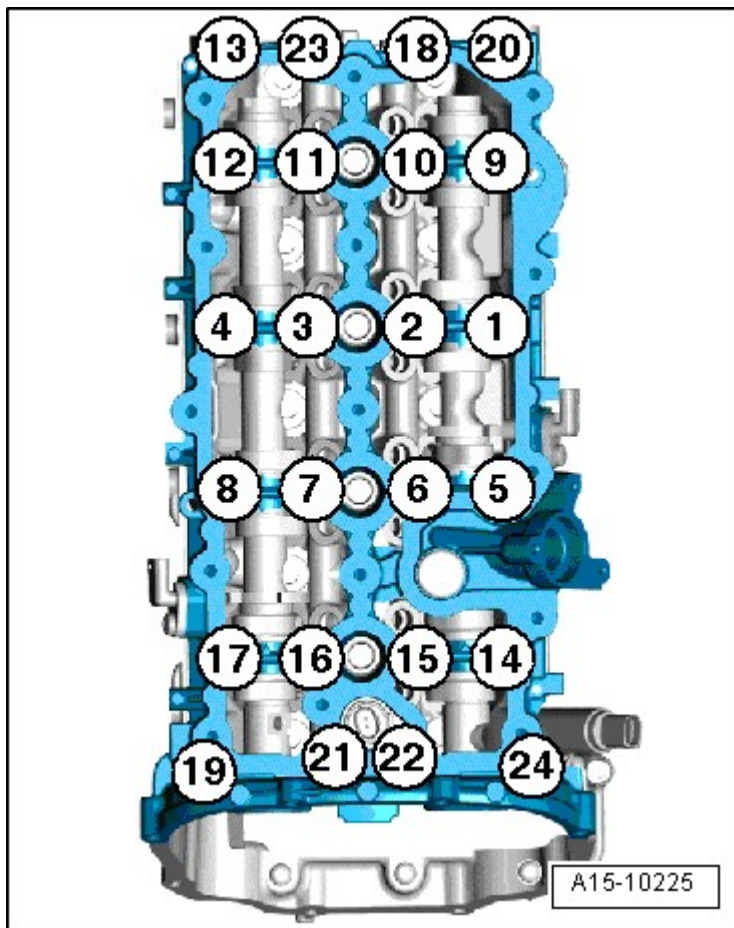

Fig. 19: Identifying Bearing Frame Tightening Sequence
- Tightening order **Fig. 19**